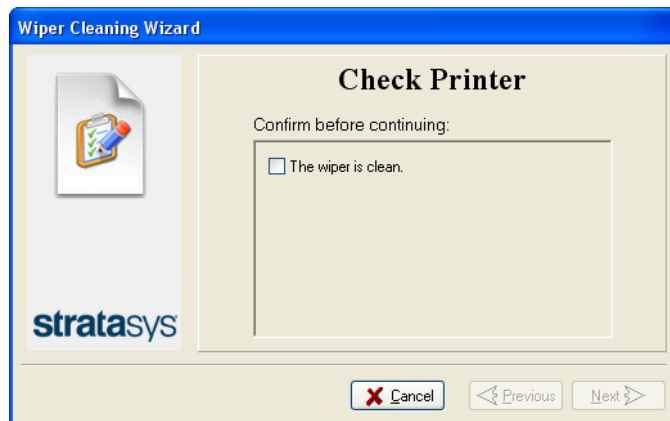

Figure 6-45 Wiper Cleaning wizard during steps 6–9
9. In the wizard screen (see Figure 6-45), confirm that the wiper blade is clean, and click **Next**.